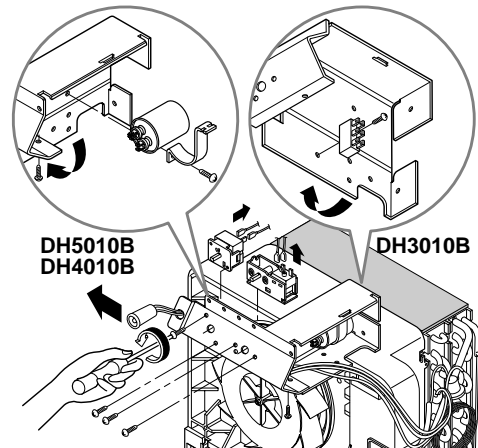

Figure 9
1. Unfasten screws located in the bottom side of control box (see Figure 9) and fasten capacitor clamp. (DH5010B/DH4010B) And then unfold two sides of control box. (See Figure 9)
1. Remove each screw that fastens capacitor after control box is stretched upper wand. (See Fig. 9)